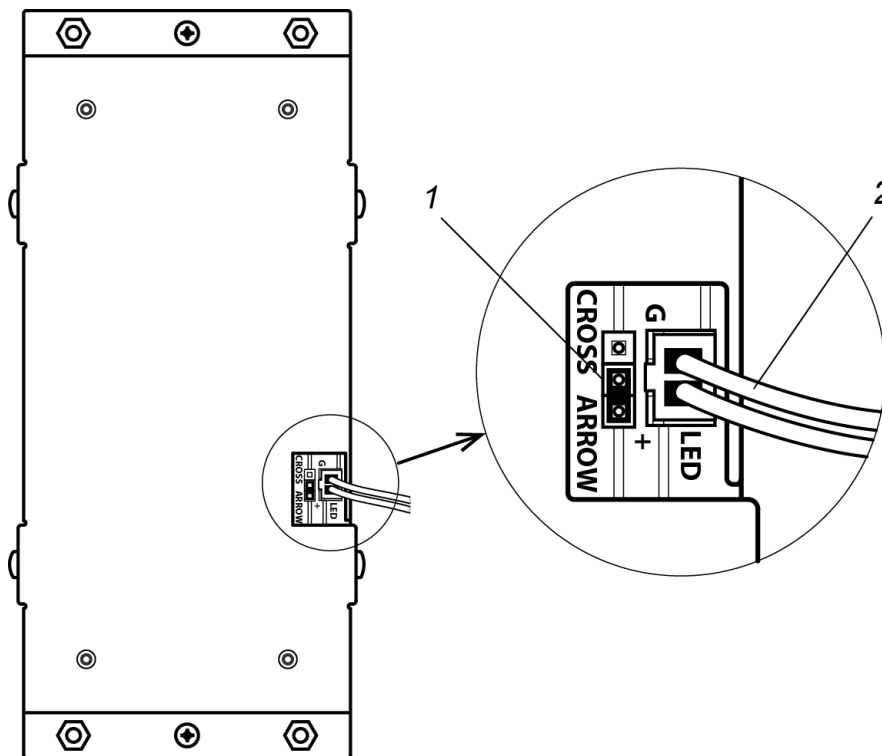

**Figure 4. Side indication block passage direction / passage denial**
The customer can choose one of the turnstile versions. Various versions, differing in the design of the side modules (6, 13, 17) with / without a built-in card capture reader / coin acceptor, are shown in Fig. 2. Side modules are rigidly fixed to the main housing (1). Side covers (8) are installed on top of the side modules, which can have different functions according to their type (see Table 1). Blocks of constant indication of the direction of passage / prohibition of passage are situated on the side modules of the turnstile (see Fig. 4). Access to the four holes in the base of the housing for fixing the turnstile to the mounting surface is provided when removing the side modules.